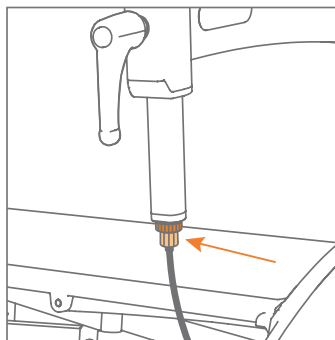

Figure 71: Brake adjustment via the adjustment screw, just below the locking ring.
- b. First loosen the locking ring (pull the cable down to make it easier). This gives you the space to tighten or loosen the adjustment screw under it (**Figure 71**).